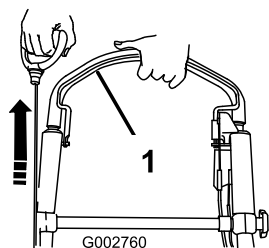

Figure 21
2. Hold the blade-control bar against the handle and pull the recoil starter (Figure 21).